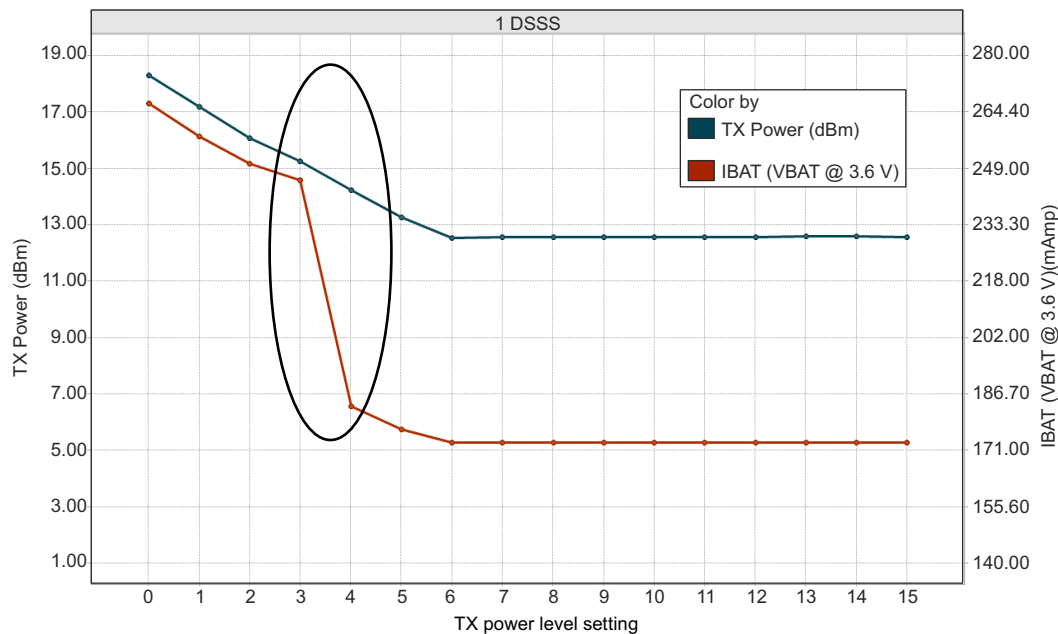
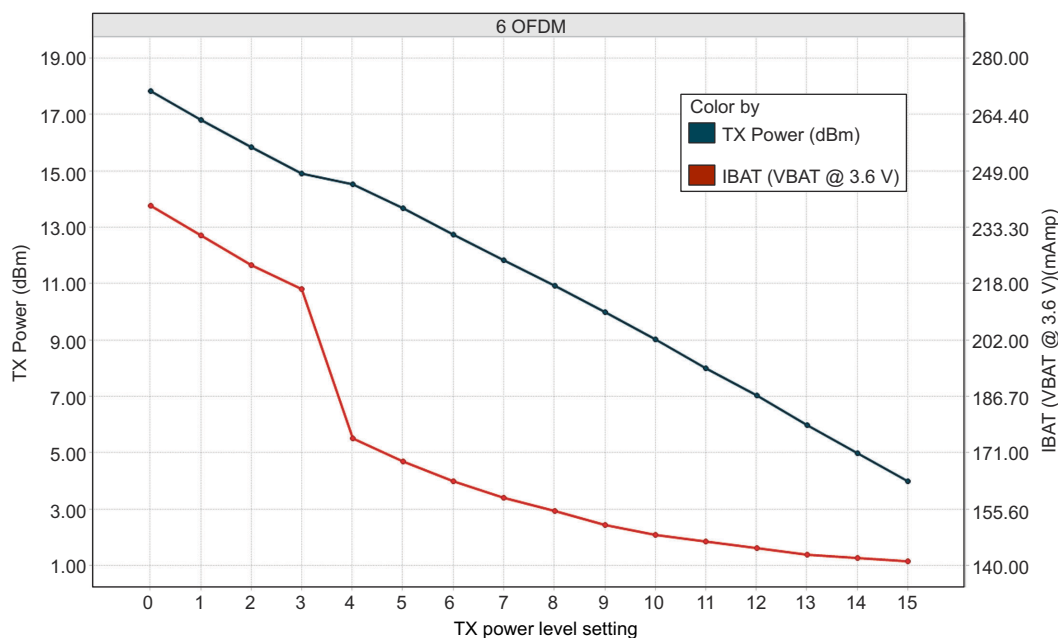
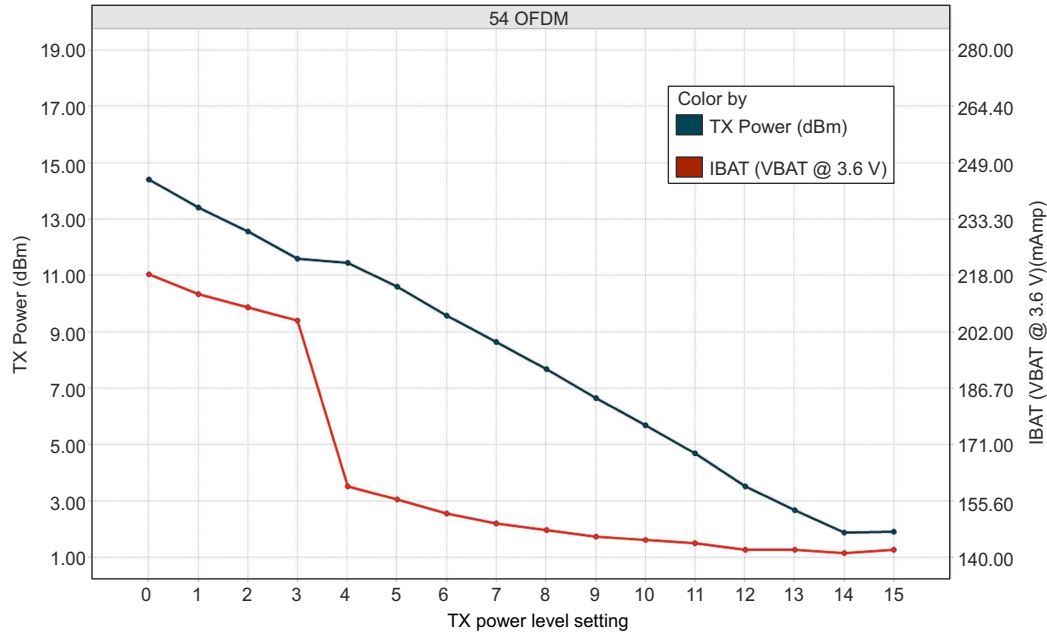

Figure 7-1. TX Power and IBAT vs TX Power Level Settings (1 DSSS)
Figure 7-2. TX Power and IBAT vs TX Power Level Settings (6 OFDM)
FIG 7-3. TX Power and IBAT vs TX Power Level Settings (54 OFDM)
(1) TX power level = 0 implies maximum power (see 図 7-1, 図 7-2, and 図 7-3). TX power level = 4 implies output power backed off approximately 4 dB.
(2) The CC3235x system is a constant power-source system. The active current numbers scale based on the V_{BAT} voltage supplied.
(3) Typical numbers assume a VSWR of 1.5:1.
(4) DTIM = 1
(5) LPDS current does not include the external serial flash. The LPDS number of reported is with retention of 256KB of MCU SRAM. The CC3235x device can be configured to retain 0KB, 64KB, 128KB, 192KB, or 256KB of SRAM in LPDS. Each 64-KB block of MCU retained SRAM increases LPDS current by 4 μA .
- (6) The complete calibration can take up to 17 mJ of energy from the battery over a period of 24 ms. Calibration is performed sparingly, typically when coming out of HIBERNATE and only if temperature has changed by more than 20°C. The calibration event can be controlled by a configuration file in the serial flash.
In Figure 7-1, the area enclosed in the circle represents a significant reduction in current during transition from TX power level 3 to level 4. In the case of lower range requirements (14-dBm output power), TI recommends using TX power level 4 to reduce the current.